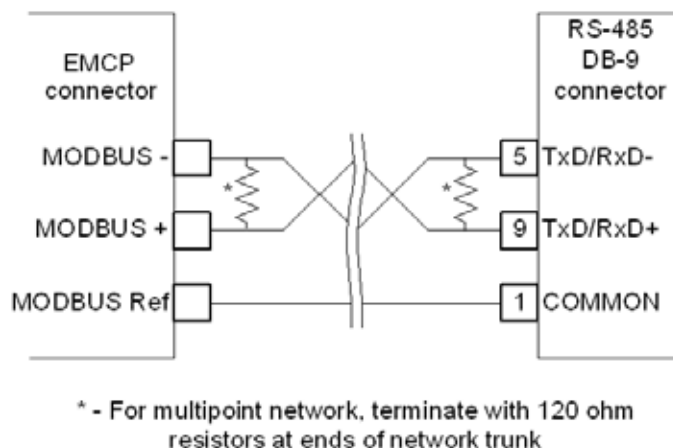

Figure 32.1 – Possible Wiring Configuration to an RS-485 Device
- Figure 32.1 shows a possible wiring configuration to a RS-485 device.